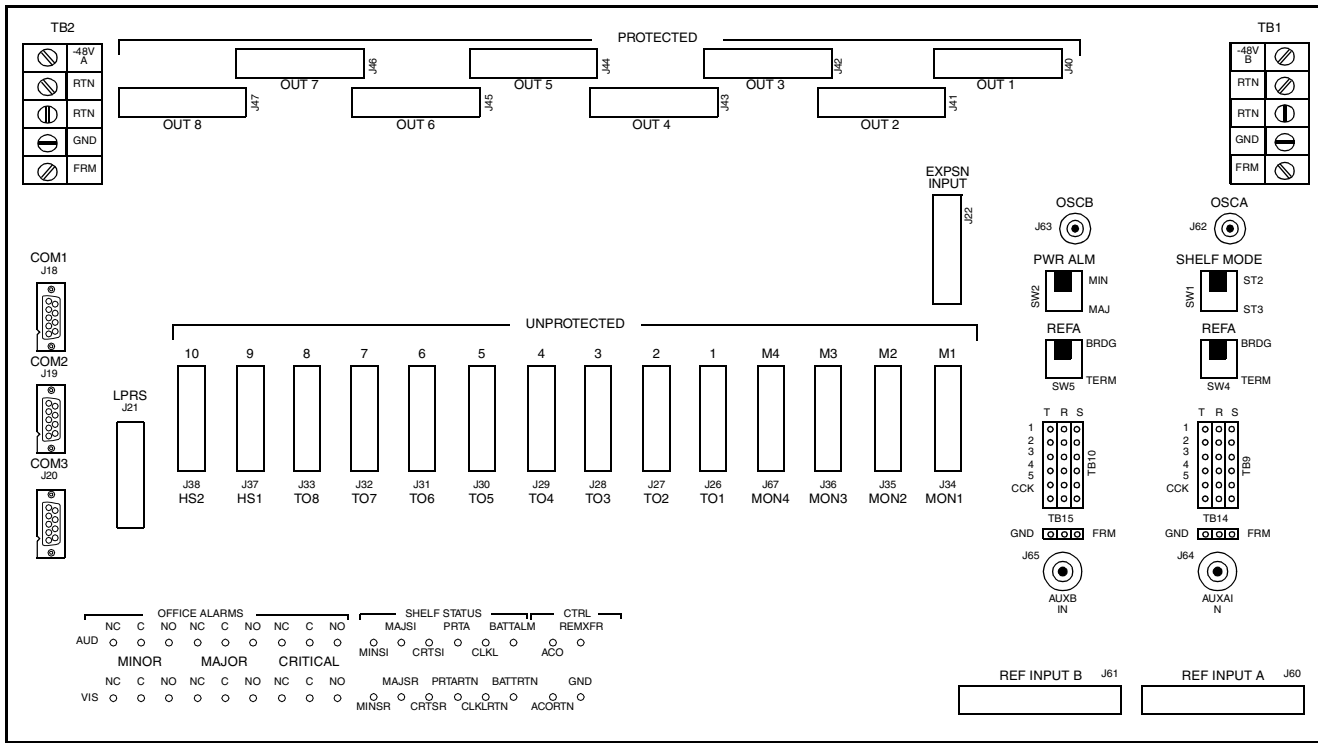

Figure 8. Expansion Shelf (Rear View)
2.12 Switches SW1, SW4, and SW5 on the rear panel of the expansion shelf are not used unless a clock input card is installed. Set switch SW2 to the same position as the master shelf. Consult the local company Installation Job Specifications to set switches SW1 and SW2, and SW4 and SW5 (Figure 8) on the expansion shelf rear panel per the following:
1. Using Figure 8 and Table B as reference, set switches SW1 through SW5 on the rear panel of the expansion shelf assembly per local company Installation Job Specifications.